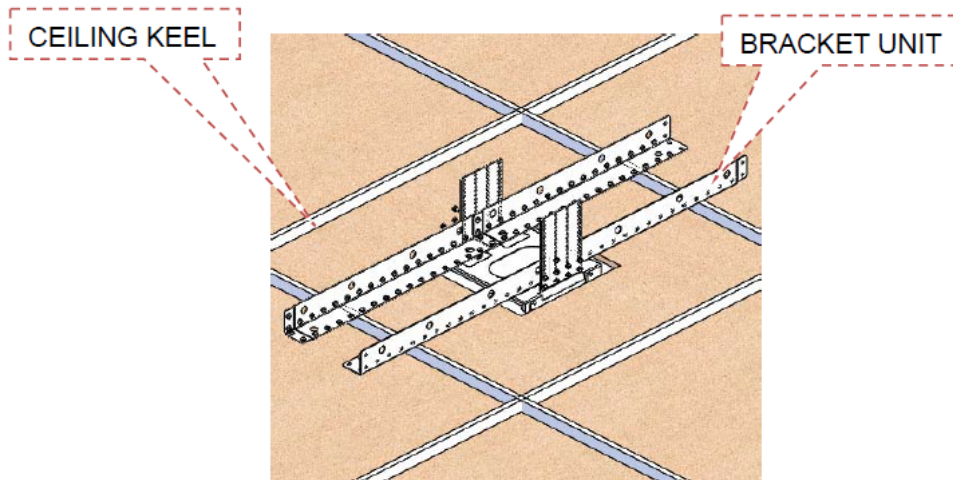

Figure 21
Step 3 Use metal wire mount the bracket unit onto the ceiling keel, as shown in figure 21.
Click  to add RUs, as shown in Figure 21.